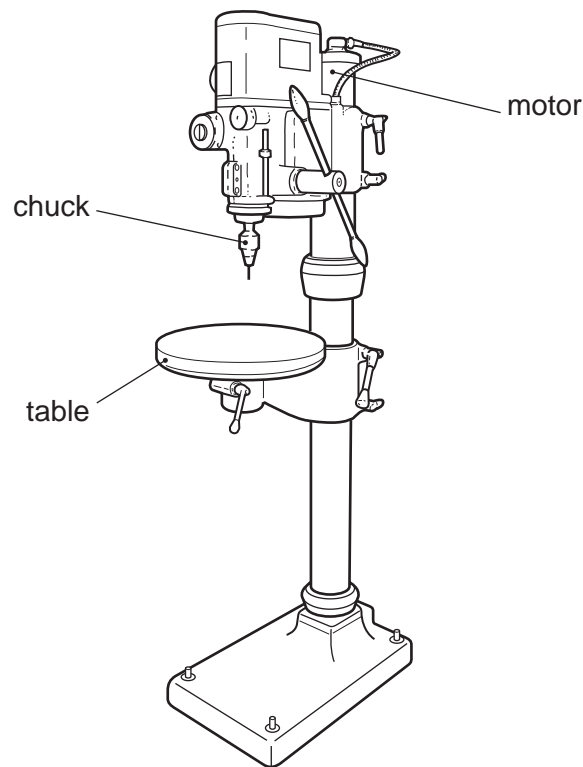

Fig. 1
- 1 (a) Fig. 1 shows a pedestal drilling machine.